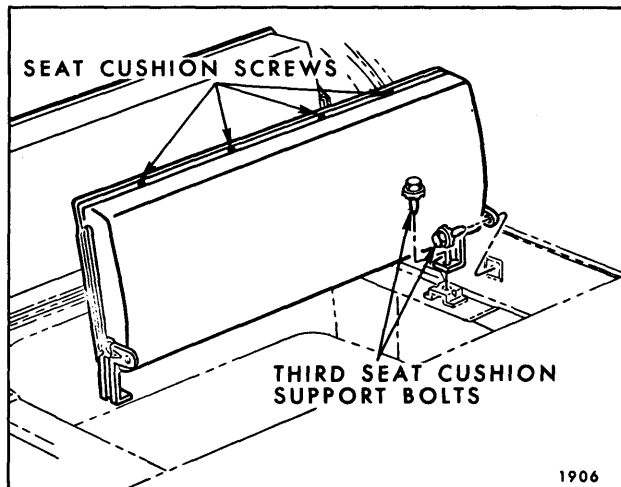

Fig. 15-57—Folding Third Seat Cushion
1. Lift third seat cushion to half raised position or approximately vertical to floor pan (Fig. 15-57).
2. Remove four seat cushion screws from rearward edge of cushion (Fig. 15-57).
1. Lift third seat cushion to a half raised position or approximately vertical to floor pan. (See Fig. 15-57).
2. Remove two bolts at each side of seat securing supports to body (Fig. 15-57), then, remove seat cushion, panel assembly and supports from body and place on a clean protected surface.